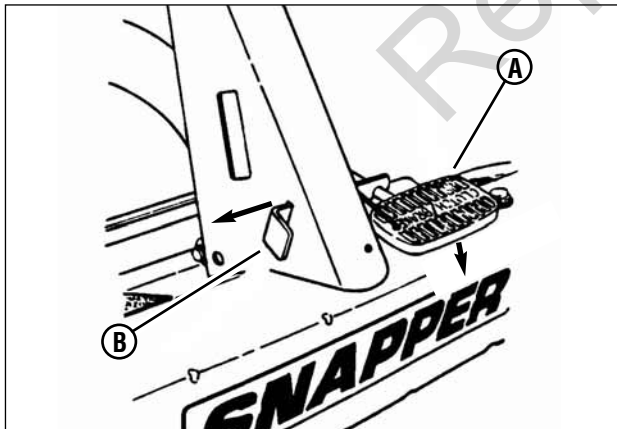

Figure 17: Releasing the park brake
2. Release the park brake by pressing down firmly on the clutch/brake pedal (A, **Figure 17**). The park brake latch (B) is spring-loaded, and will slide back to the disengaged position unassisted.